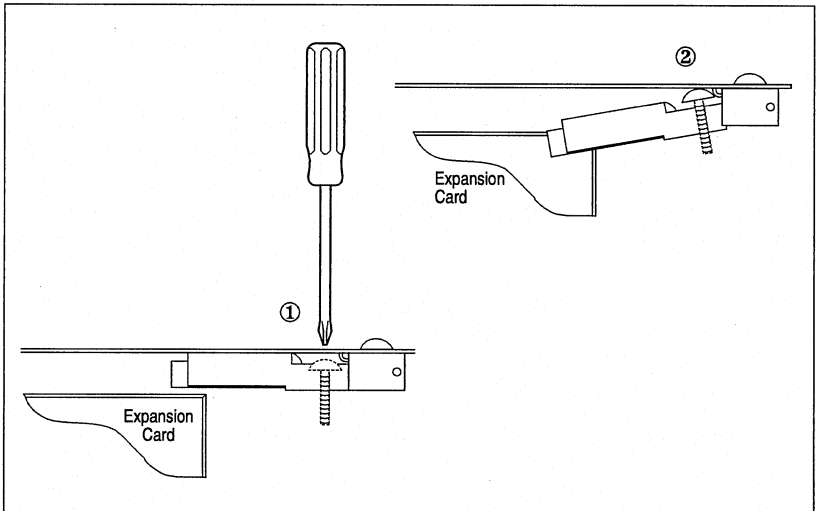

fig. A-24
1. Adjust the card retainers by using the retention screw. You must use a screwdriver that can fit through the retaining slot on the retention plate (fig. A-24).
2. Turn the retention screw counter-clockwise to tighten the card retainer on the card. The retaining screw will push against the retention bracket for a secure fit (fig. A-24).